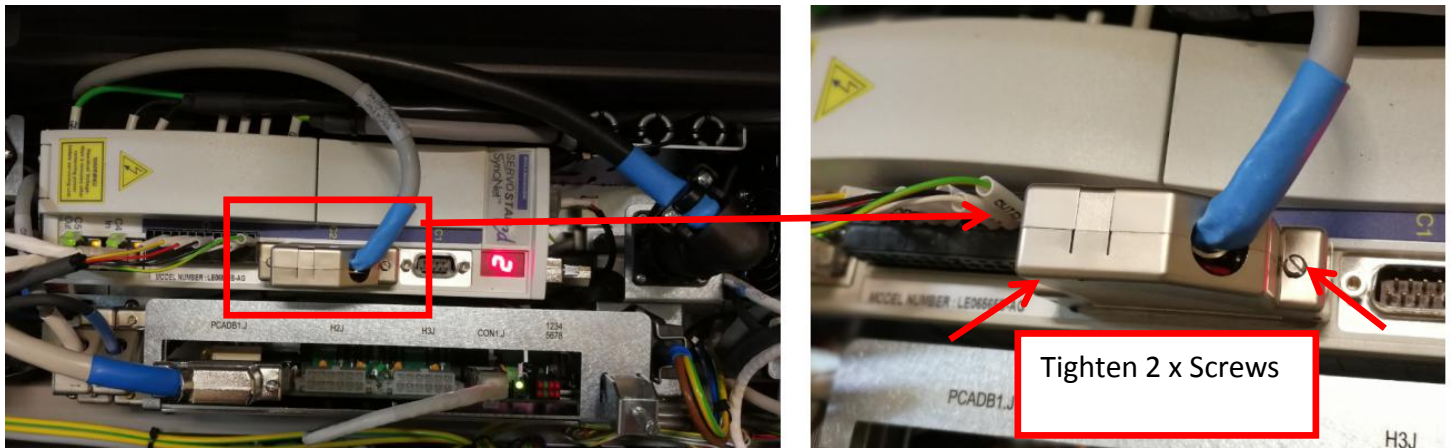

Figure 28
33. Connect X-Axis Motor Rotary Cable as Figure 28